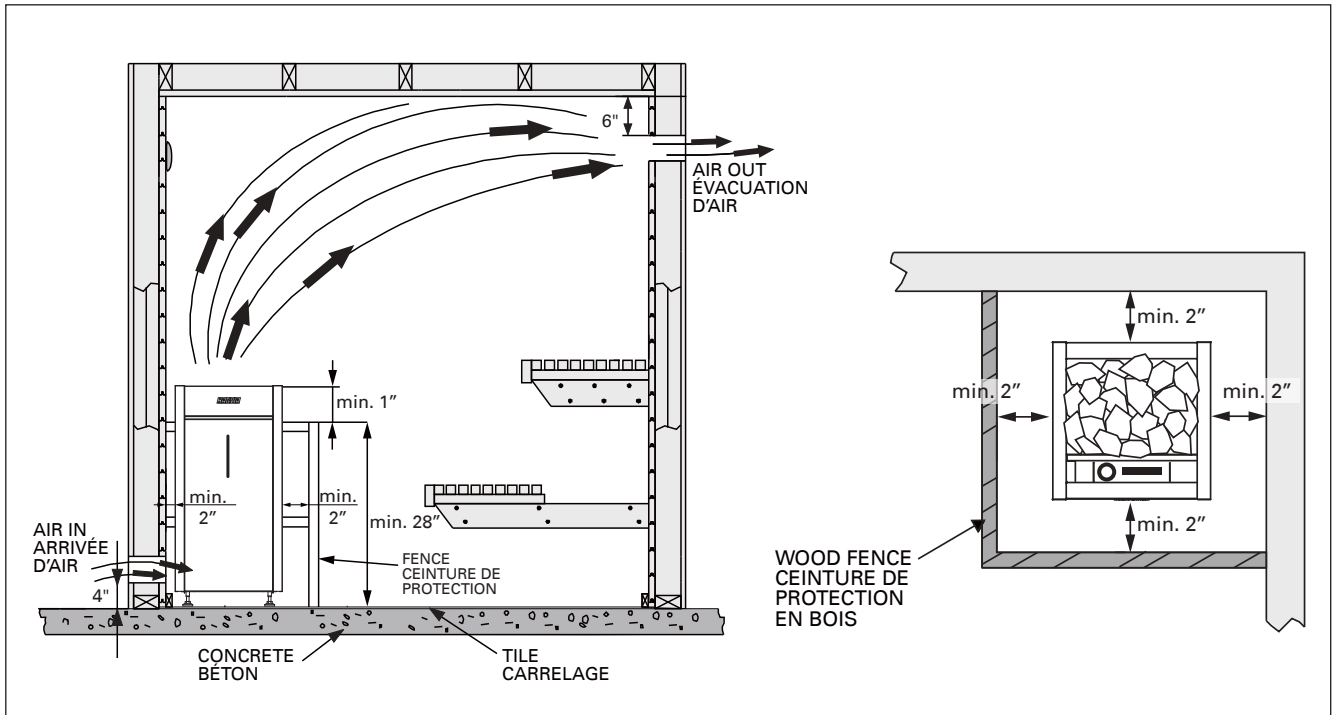

Figure 4. Ventilation of the sauna room and min. clearances from wall and fence
The minimum safety distances are described in figure 4 and 6.
It is necessary for safety and should be constructed of softwood to match sauna interior. See figures 4 and 6 for clearances from sauna heater. Fence should be attached to wall and should not be placed higher than top of heater below rock line.
1. Remove heater from carton and place in proper location in sauna room. Observe proper clearances as per figures 4 and 6.